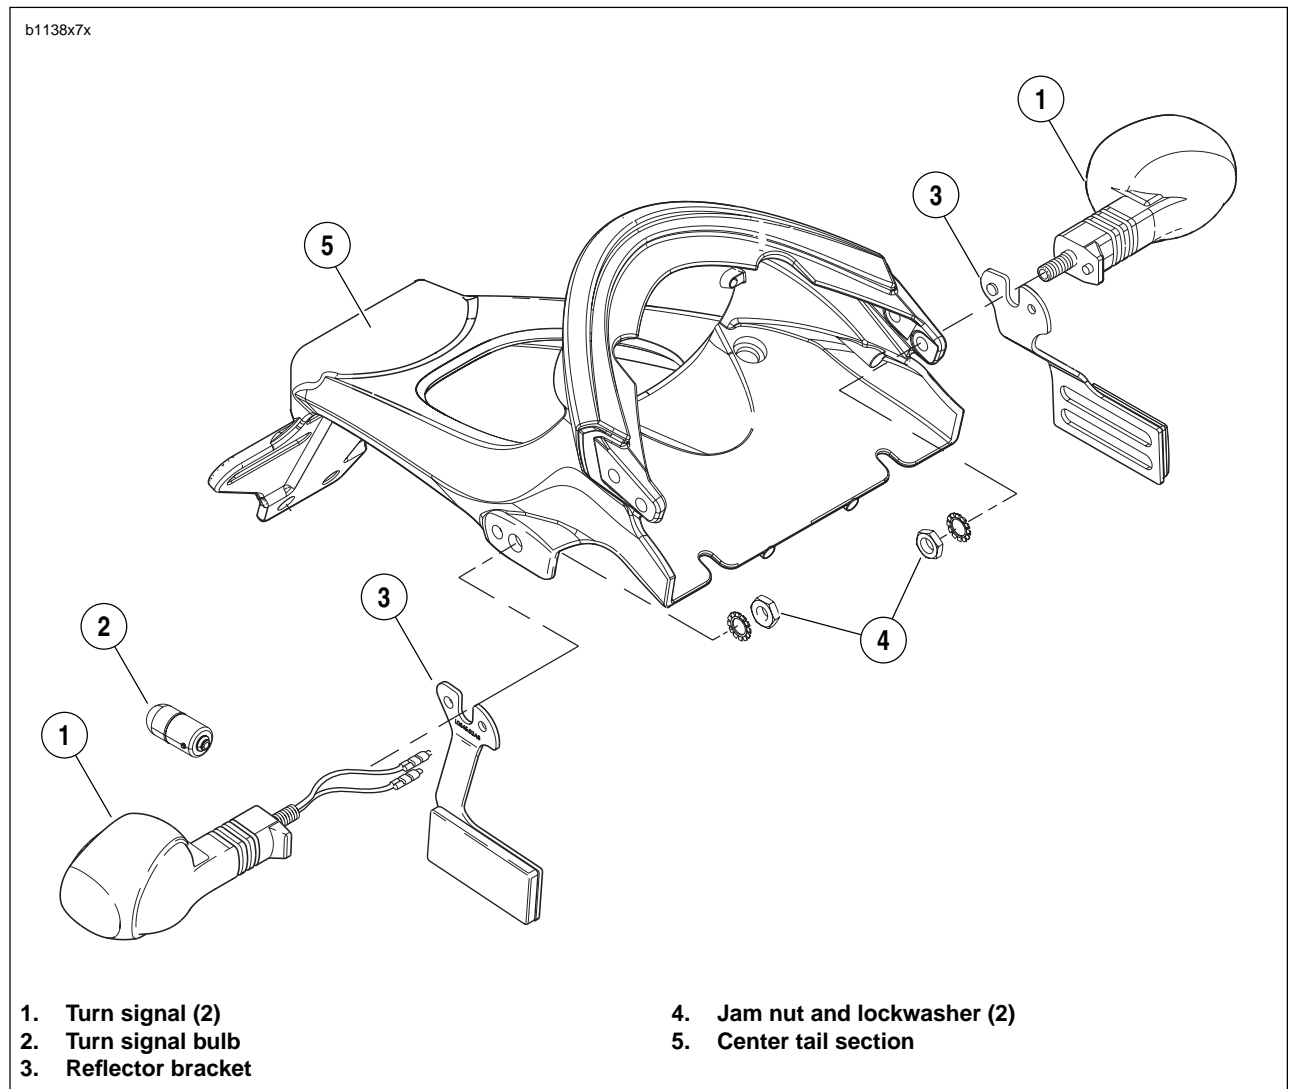

Figure 7-51. Rear Turn Signals
3. See Figure 7-51. Remove fastener and lockwasher (4).
3. See Figure 7-51. Attach turn signal using lockwasher and fastener (4). Tighten fastener to 25-28 **in-lbs** (2.8-3.2 Nm).